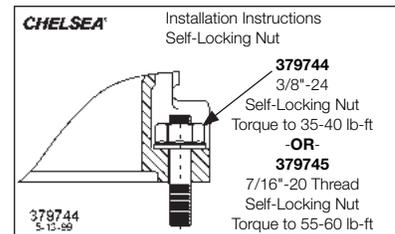

Figure 9
**NOTE:** Self-locking nuts do not require lock washers (Fig. 9).